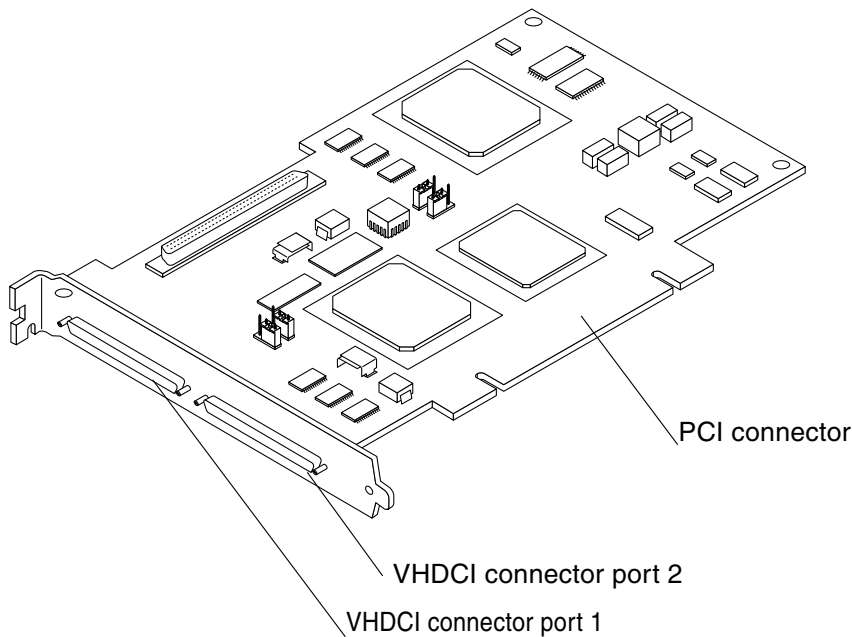

FIGURE 1-1 Sun StorEdge PCI Dual Ultra3 SCSI Host Adapter
- Sun StorEdge PCI Dual Ultra3 SCSI host adapter (FIGURE 1-1)
The host adapter is shown in FIGURE 1-1. The Very High Density Cable Interconnect (VHDCI) connectors are for the VHDCI cables that are used to connect the host adapter to the storage device.
In the example, the first SCSI port (`scsi@4`) has one disk drive connected (target 0). The second SCSI port (`scsi@5`) also has one disk drive connected (target 0). In the illustration of the host adapter in FIGURE 1-1, the first SCSI port is labeled as Port 1; the second SCSI port as Port 2.